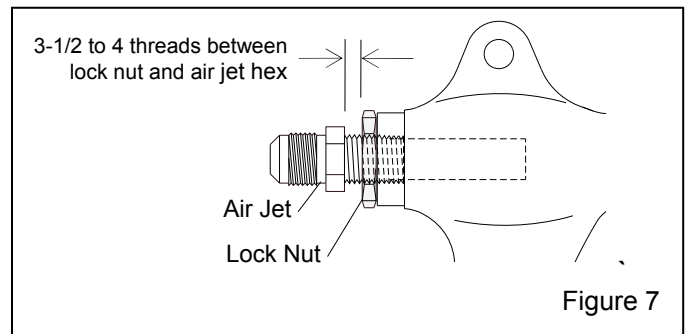

Figure 7
4.2 Air Jet Adjustment, Figure 7